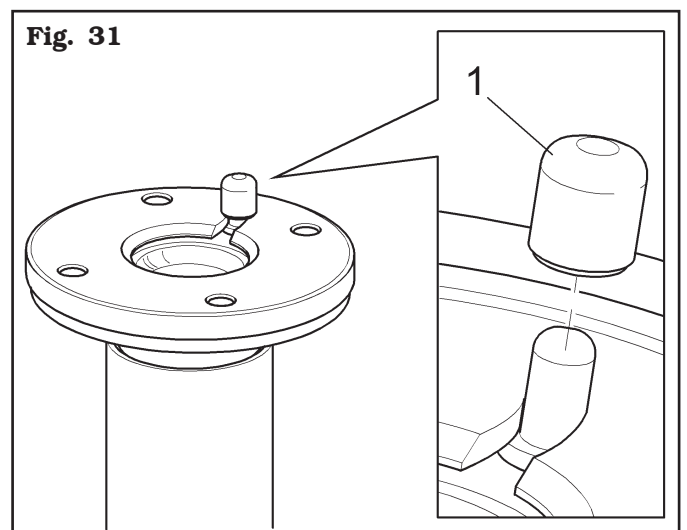

Fig. 31
9. For wheels with alloy rims, use a proper plastic guard (**Fig. 31 ref. 1**).